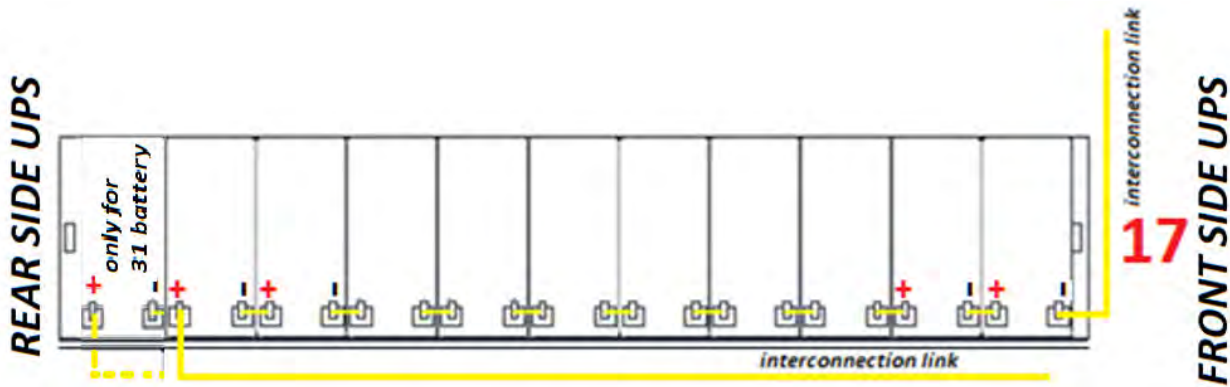

Figure 22 - View from above Level No.6 tray no. 17
15) On Level no. 6, insert tray no. 17 in compliance with the position and cabling as demonstrated in Figure 22.